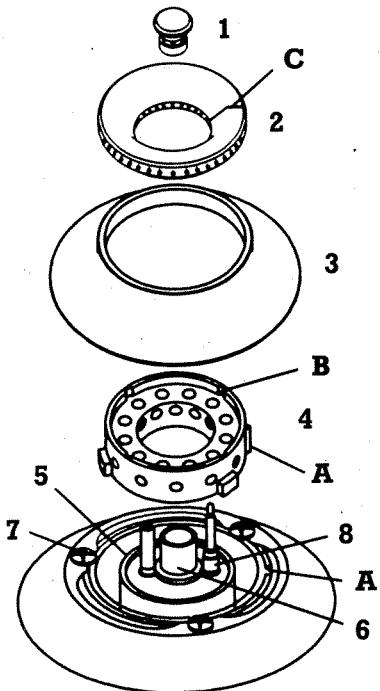

Fig. 9
6. Unscrew the hob securing screws **7** (Fig. 9) and detach the hob.
Note: To guarantee earthing, one hob securing screw **7** (Fig. 9) must be protected against coming loose by fitting a serrated washer. Lightly tighten the screws (M 4 x 8) **7** on each burner. Do not tighten the screws firmly until after final adjustment.
Fit included burner parts and the pot grid (as shown in Fig. 9). When assembling the burner parts, make sure that they fit correctly (see Page 45).
Detach the pot grid, burner rings, burner head covers and burner heads (see Fig. 9). Undo hob securing screws **7** and carefully detach the hob.